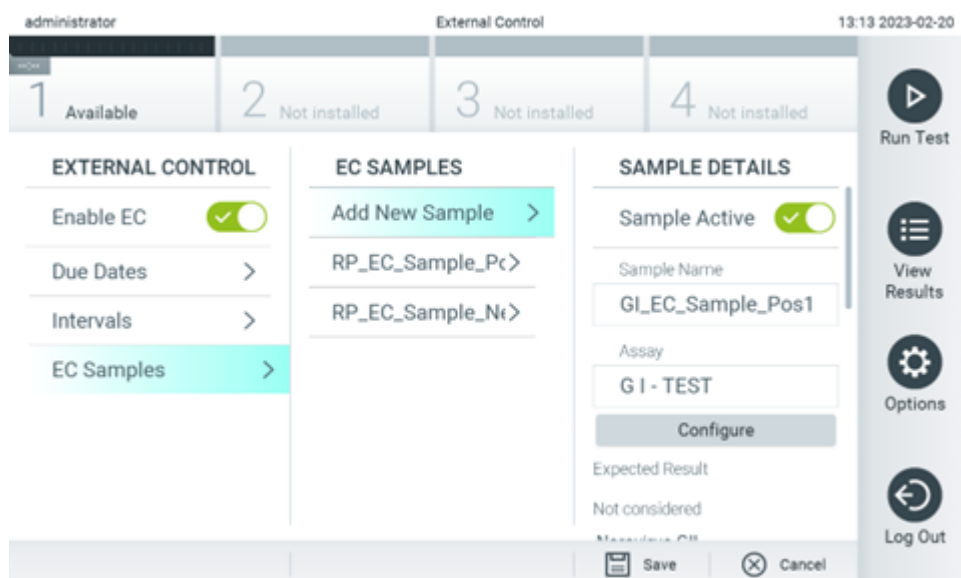
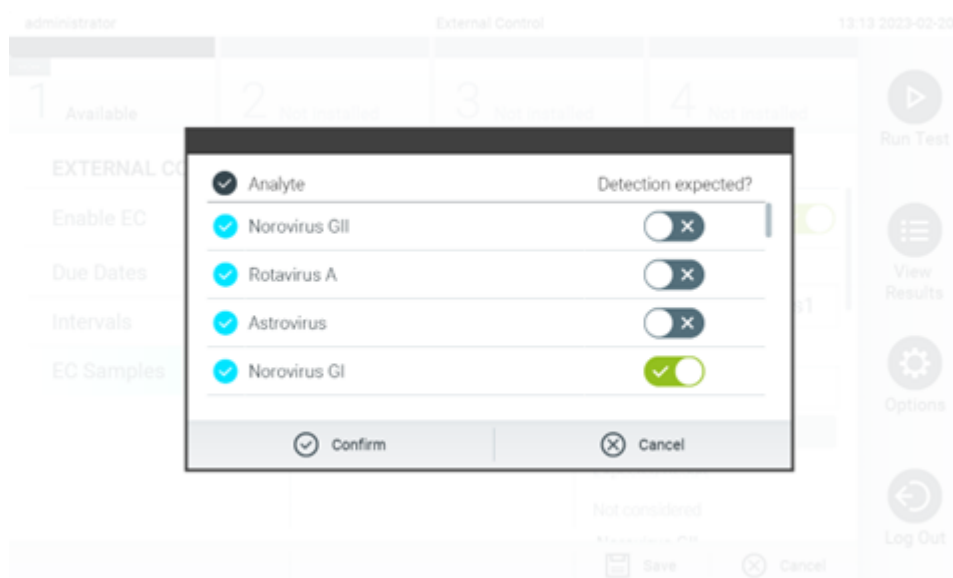

Figure 79. External Control EC Samples screen.
Figure 80. External Control EC Sample configuration screen.
- Press **EC Samples** to add or edit samples which are used in an External Control test. To add a new EC Sample, press **Add new Sample** and then continue with the configuration in the **Sample Details** column (Figure 79). To edit an EC sample, select an existing one from the **EC SAMPLES** column and continue with the configuration in the **SAMPLE DETAILS** column.
- Press **Configure** to edit the analytes in an External Control test (Figure 79). In the External Control EC Sample configuration, it can be determined whether an analyte is considered for the External Control EC run and whether a detection is expected (Figure 80).